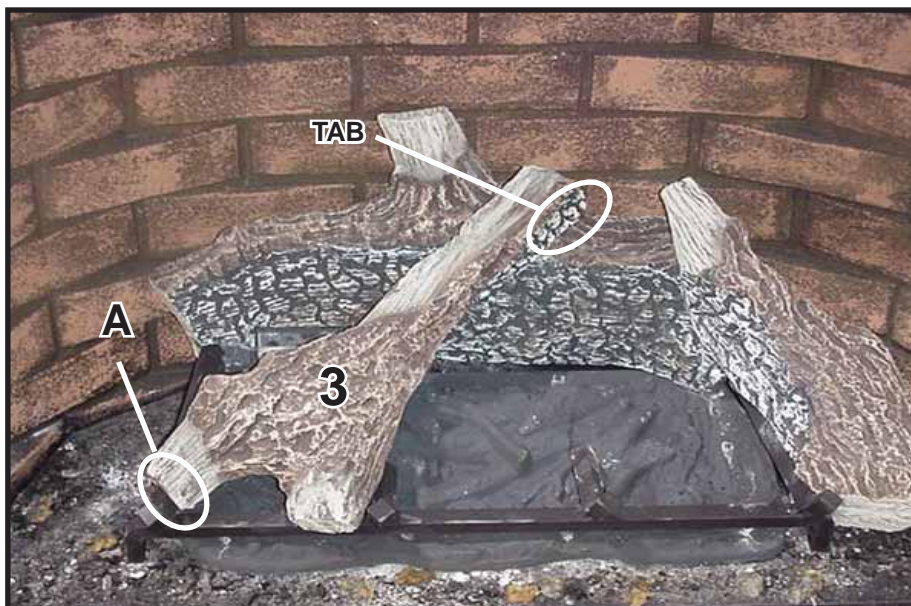

Figure 12.15
Place the notch on the tip of log #3 over the locating tab on log #1. Place the left leg of the log on the far left grate tine (A). See Figure 12.15.